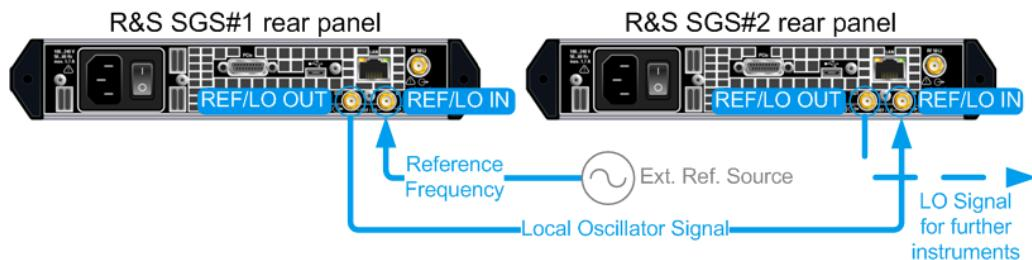

Figure 9-3: Example of a setup: LO coupling
1. Connect the instruments as a daisy chain (see Figure 9-3), i.e. connect the REF/LO IN connector of each further instrument to the REF/LO OUT connector of the previous one.
Refer to Figure 9-3 for an example of how to connect two instruments for achieving phase coherence. The configuration can be extended by further instruments.